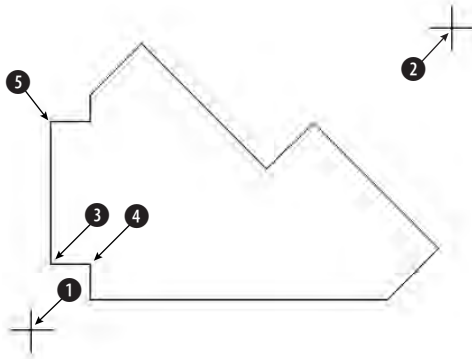

Figure 16-50: An unfolded sheet metal template
2. Save the file as `abl6-11.dwg` in your AutoCAD Bible folder. This is a sheet metal template as shown in Figure 16-50.
3. Make a photocopy of Figure 16-50 and tape it to the active area of your digitizer.
Digitize point #1: Pick ❶ in Figure 16-50.
Digitize point #2: Pick ❷ in Figure 16-50.
7. In Figure 16-50, pick ❸ with the digitizer, then ❹, and then each line endpoint in turn counterclockwise around the figure.
8. After you reach ❺, do not digitize point ❶ again. Instead, type **c** ↵ to close the figure exactly.